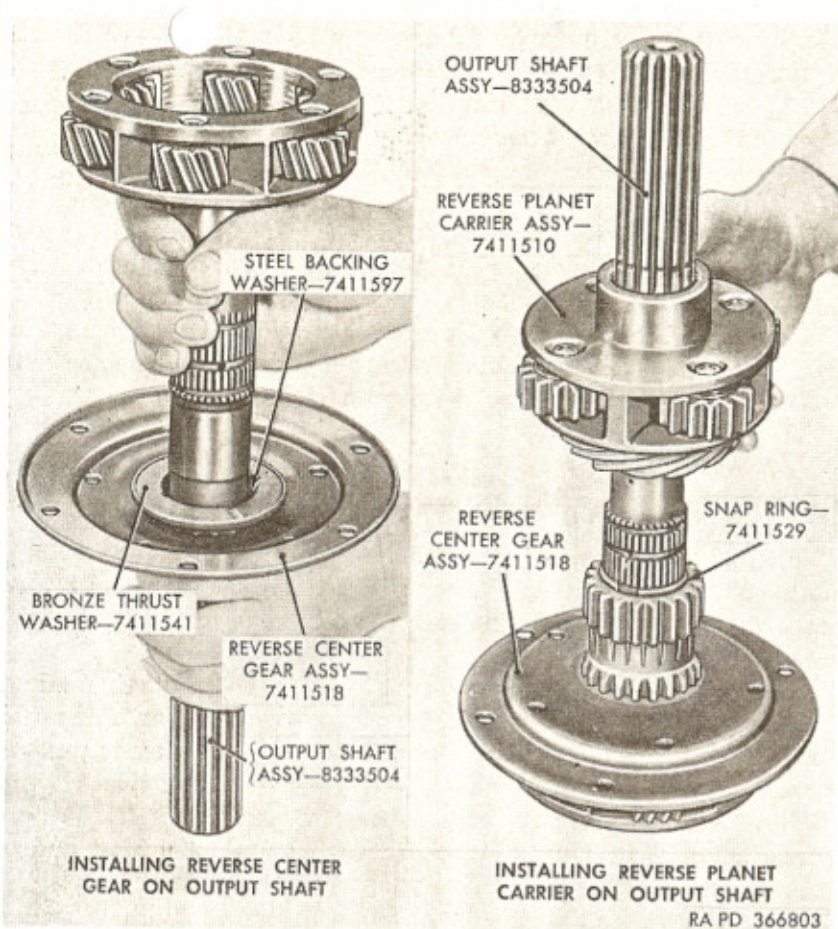

Figure 143. Installing reverse center gear and reverse planet carrier on output shaft.
a. Coat steel backing washer (E) lightly with artillery and automotive grease (GAA); then place backing washer and bronze thrust washer (D) in cupped retainer in reverse center gear assembly (F) (fig. 143).
b. Insert end of output shaft assembly (C) through washers and reverse center gear; then lift reverse center gear up against planet end of output shaft. Hold parts firmly together to prevent thrust and backing washers from getting out of place while turning the assembly over and setting on bench.
c. Install snap ring (J) in groove in output shaft at end of reverse center gear hub, using snap ring pliers.
d. Install reverse planet carrier assembly (N) over output shaft (fig. 143) with oil pump drive gear down. Position reverse planet carrier assembly on reverse center gear assembly, with pinions in planet carrier meshing with external teeth on reverse center gear. Make sure the reverse planet carrier hub bottoms against the snap ring installed in c above. Install other snap ring (J) in groove in output shaft to hold reverse planet carrier in position.
a. Coat steel backing washer (E) and bronze thrust washer (D) lightly with artillery and automotive grease (GAA). Install the steel backing washer (E); then install the bronze thrust washer (D) in the recess of the drive flange of center gear assembly (fig. 143).
Note. The thrust washers must be installed in drive flange of center gear assembly (fig. 143) and not on the shaft.
b. Insert end of output shaft assembly (C) through drive flange of reverse center gear assembly until carrier assembly end of output shaft bottoms on the backing and thrust washers (fig. 143).
d. Install front snap ring (G).
e. Coat selective size bronze thrust washer (B) lightly with artillery and automotive grease (GAA); then insert thrust washer into counterbore of output shaft. Insert input shaft (A) into output shaft assembly (C), meshing pinion of output shaft assembly with teeth of input shaft.